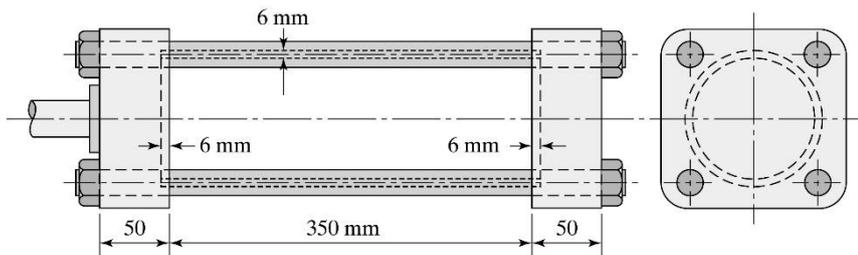

Fig.15
- 21.** The bolts in Fig. 15 are 20 mm in diameter, pitch 1.5 mm, made from cold-drawn 8740 steel. Machined threads; $K = 3.85$. The steel cylinder is 100 mm ID. Fluid pressure varies continuously from 0 to 14 MPa. Assume the end plates are rigid. Find the value of initial force F_0 if the bolts are to have an N_{fs} equal to 4.